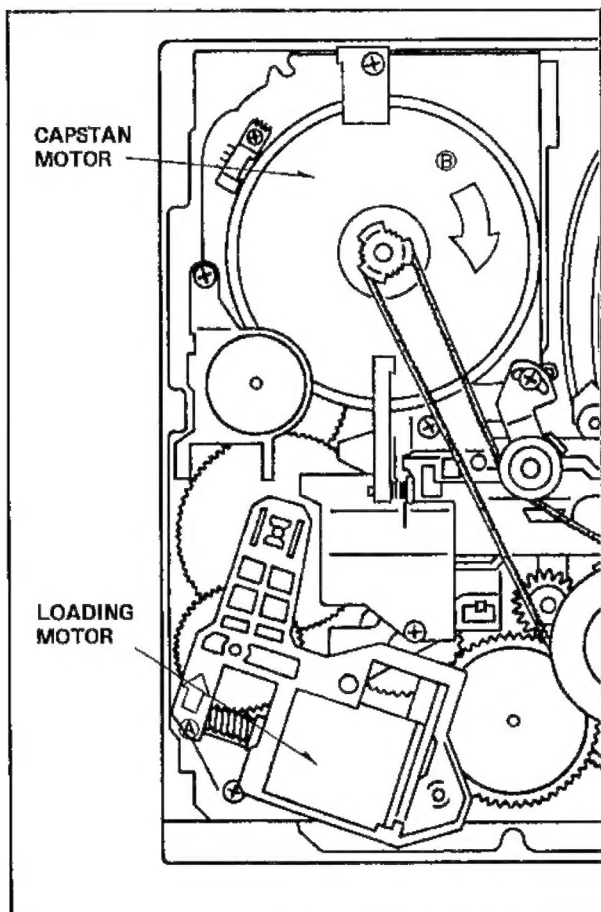

Fig.G2
2. Turn the worm gear to arrow mark direction (A) by finger as shown in Fig.G2 until loading post move to unloading position.
3. Turn the capstan rotor clockwise (B) to take up the tape.